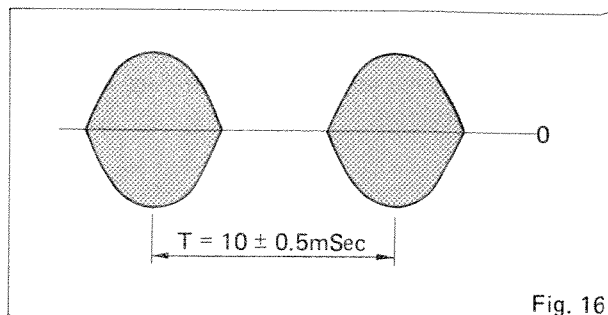
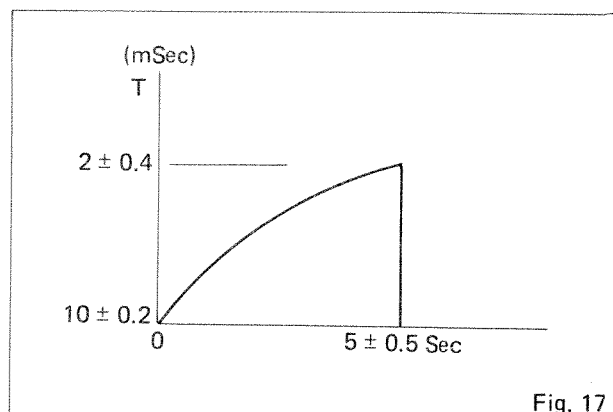

Fig. 16
Fig. 17
1. Set SPEED and MODULATION DEPTH switches to F and 10 respectively, with controls set to each specified position in item [3] panel setting. Waveforms shown in Figure 16 should be obtained when VCA is set to ON. After that, T should be $15 \begin{smallmatrix} +4 \\ -2 \end{smallmatrix}$ % smaller when FINE is set to +, and when set to -, T should be larger than $15 \begin{smallmatrix} +4 \\ -2 \end{smallmatrix}$ %.
2. Set SPEED switch to F with controls set to each specified position in item D-1. In addition, set EG DEPTH and ATTACK TIME switches to 10 and L, respectively, so that T in Figure 16 should become 2 ± 0.4 msec, and then, 10 ± 0.2 msec in 5 ± 0.5 seconds after the key is depressed (See Figure 17).